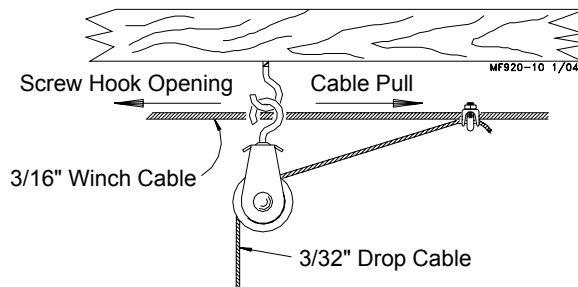

Figure 6. Screw Hook Installation
Screw the hook into the truss the full length of the threads to prevent bending. The openings of the screw hooks must be pointed away from the direction of travel when the Power Winch raises the feeder line, **see figure 6.**
2. Thread the end of the 3/32" cable through the pulley toward the winch. Clamp this end to the 3/16" winch cable about 6" (150 mm) from the pulley, using a 3/16" cable clamp, **see figure 6.**